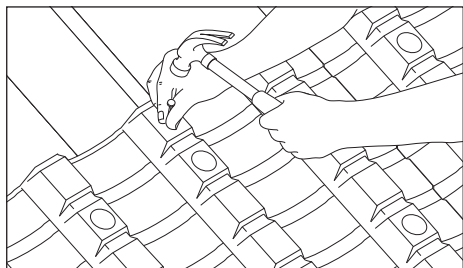

Fig. 1
- 2 Pull and adjust to correct rafter centres and twice nail to top of each rafter, using 25mm long aluminium nails (Fig 1).